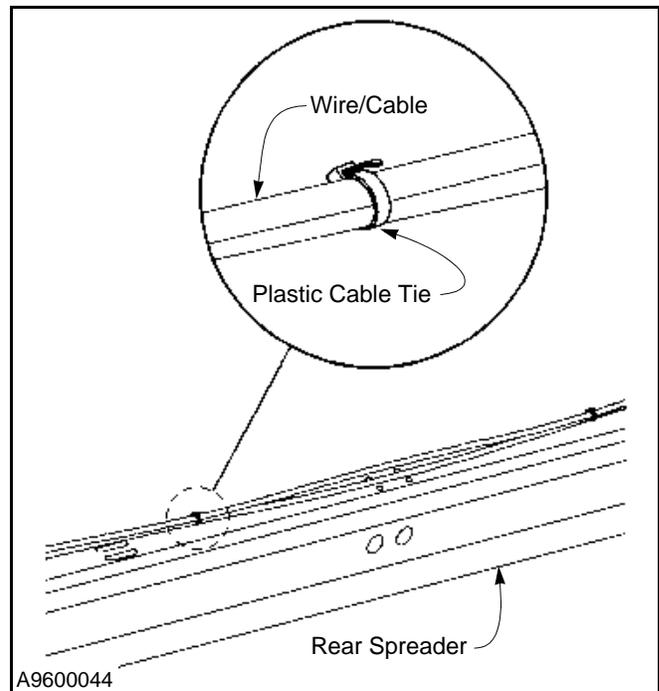

Figure 64
3. Route the right-front photo eye cable straight up into the right console assembly, then across the rear spreader. This rear spreader runs between the side columns along the top. (See Figure 64.)